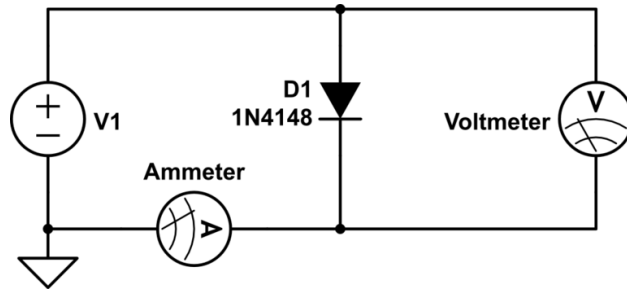

Figure 4: Measure the voltage and current relationship of a diode
- Using both multimeters, one in voltage mode and one in current mode, construct the circuit shown in figure 4.